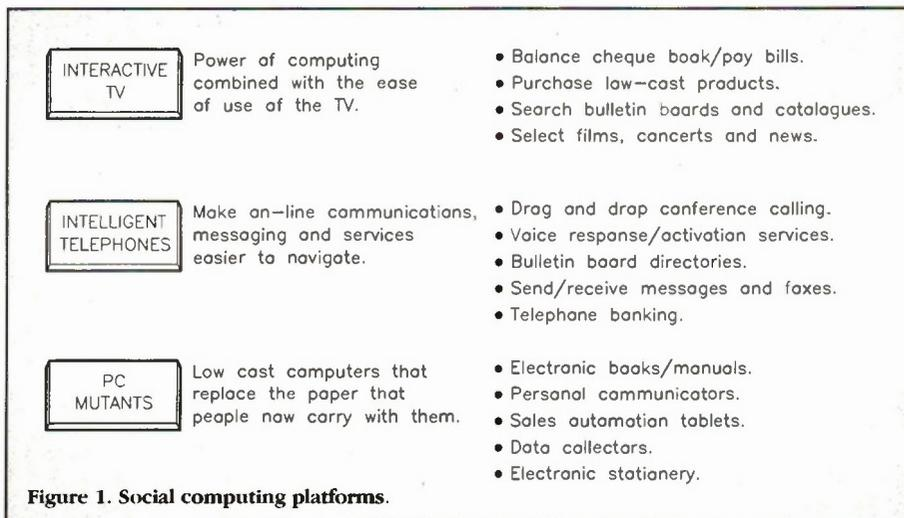

Figure 1. Social computing platforms.
- A new generation of telephones, TVs and hand-held electronic devices (see Figure 1). By the end of the century, all of these products will support two-way communications and a richer content.